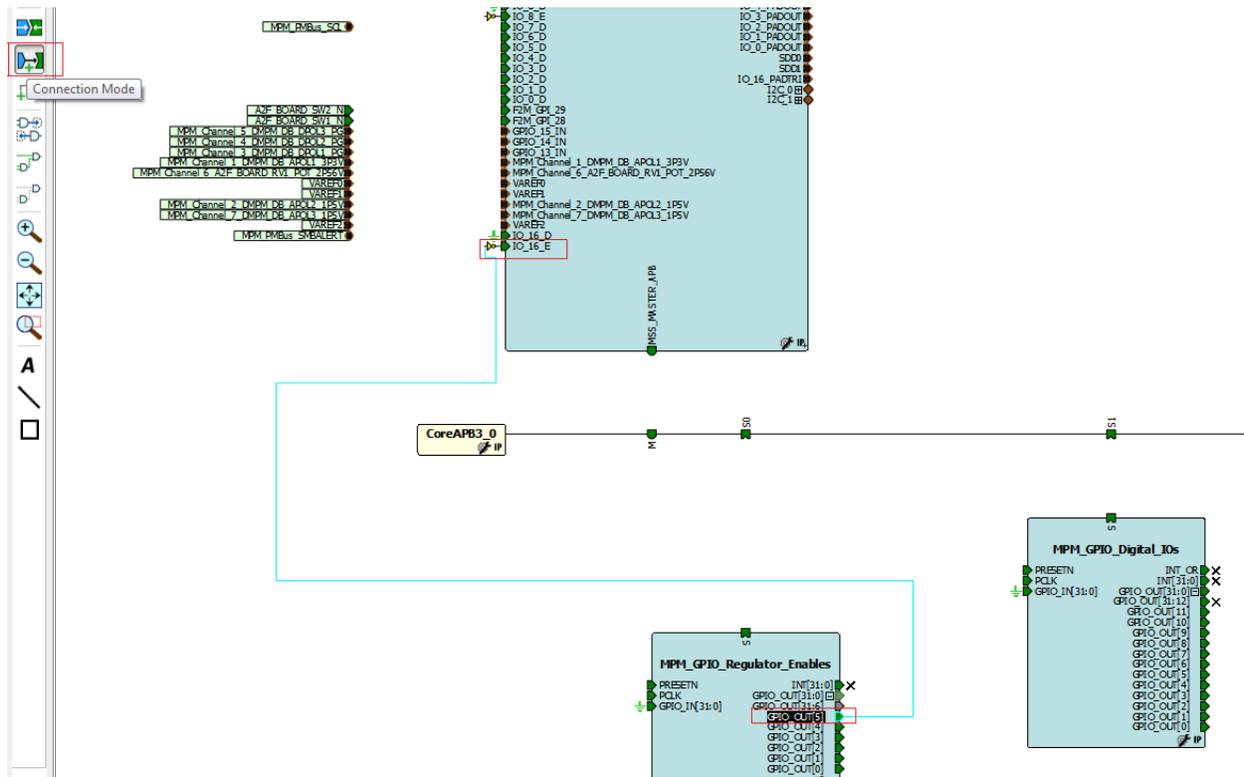

Figure 32 • Connecting GPIO_OUT[5] and IO_16_E
- Connect GPIO_OUT[5] port of MPM_GPIO_Regulator_Enables to IO_16_E port of SF_MPM_RefDesign_MSS by using Connection Mode button as shown in Figure 32.